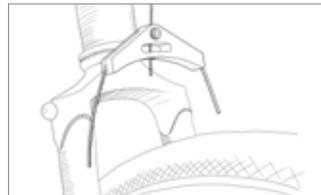

Figure 5
5. Check your cable carrier position: verify that the cable carrier and straddle wire do not interfere with the tire or fender. Figure 5 shows appropriate carrier height, which is approximately 40–50mm from the bottom of the carrier to the top of the tire and/or fender. Adjust the height of the cable carrier as needed and tighten the pinch bolt in the cable hanger to 5 Nm to firmly hold the cable in place.